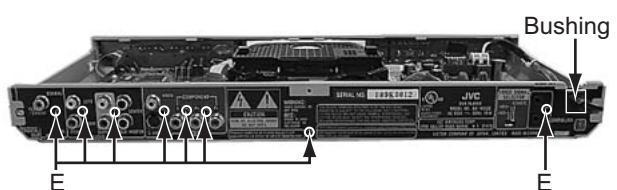

Fig.8
3.1.4 Removing the rear panel (See Figure 8)